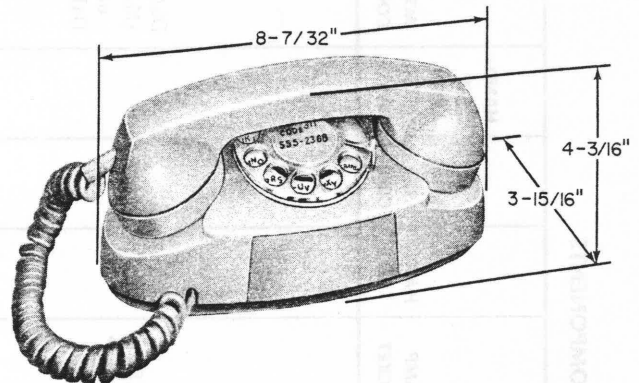

Fig. 1—700-Type Telephone Set
1.01 This section contains information for the 702B manufacture discontinued (MD) and 702BM telephone sets (Fig. 1).